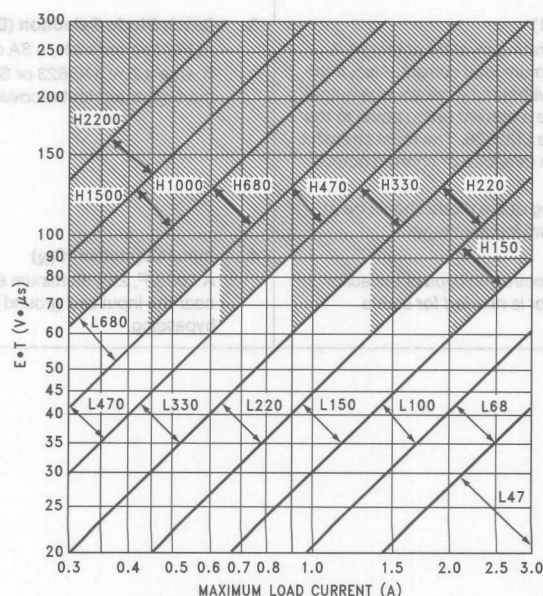

FIGURE 7. LM2576(HV)-ADJ
B. Use the $E \cdot T$ value from the previous formula and match it with the $E \cdot T$ number on the vertical axis of the Inductor Value Selection Guide shown in Figure 7.
The inductor value selection guides in Figure 3 through Figure 7 were designed for buck regulator designs of the continuous inductor current type. When using inductor values shown in the inductor selection guide, the peak-to-peak inductor ripple current will be approximately 20% to 30% of the maximum DC current. With relatively heavy load currents, the circuit operates in the continuous mode (inductor current always flowing), but under light load conditions, the circuit will be forced to the discontinuous mode (inductor current falls to zero for a period of time). This discontinuous mode of operation is perfectly acceptable. For light loads (less than approximately 300 mA) it may be desirable to operate the regulator in the discontinuous mode, primarily because of the lower inductor values required for the discontinuous mode.